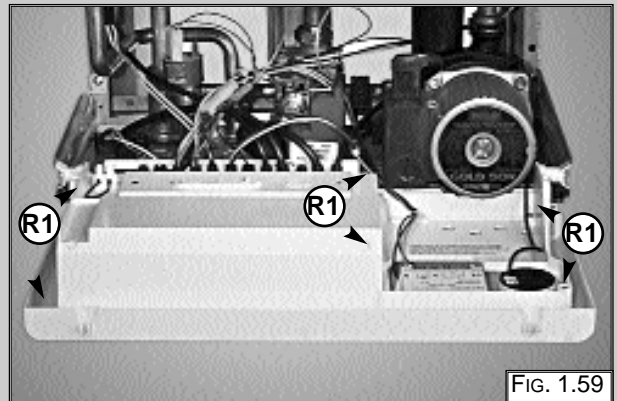

FIG. 1.59
1. Unplug the electrical connector "M1" (FIG. 1.59);
4. Remove the screws "R1" (FIG. 1.59);